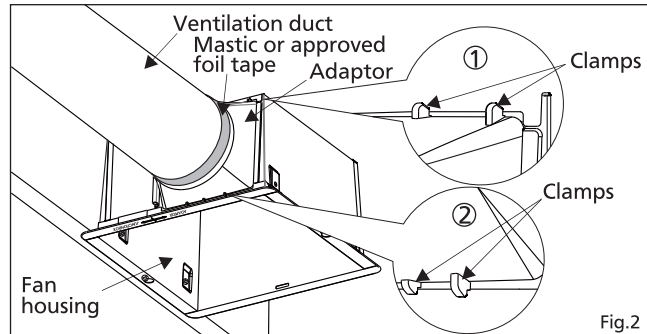

Fig.2
2. Install the ventilation duct and secure it with a clamp and seal it with mastic or approved foil tape. A 4 inch circular duct is needed to connect to the relevant part of adaptor. (Fig.2)
3. Slide the clamps of the adaptor to the top of the fan housing and then snap the clamps of the adaptor into the bottom of the fan housing opening. (Fig. 2)
2. Install the ventilation duct and secure it with a clamp and seal it with mastic or approved foil tape. A 4 inch circular duct is needed to connect to the relevant part of adaptor. (Fig.2 of page 8)
3. Slide the clamps of the adaptor to the top of the fan housing and then snap the clamps of the adaptor into the bottom of the fan housing opening. (Fig. 2 of page 8)
2. Install the ventilation duct and secure it with a clamp and seal it with mastic or approved foil tape. A 4 inch circular duct is needed to connect to the relevant part of adapter. (Fig. 2)
2. Install the ventilation duct and secure it with a clamp and seal it with mastic or approved foil tape. A 4 inch circular duct is needed to connect to the relevant part of adaptor. (Fig 2 of page 5)